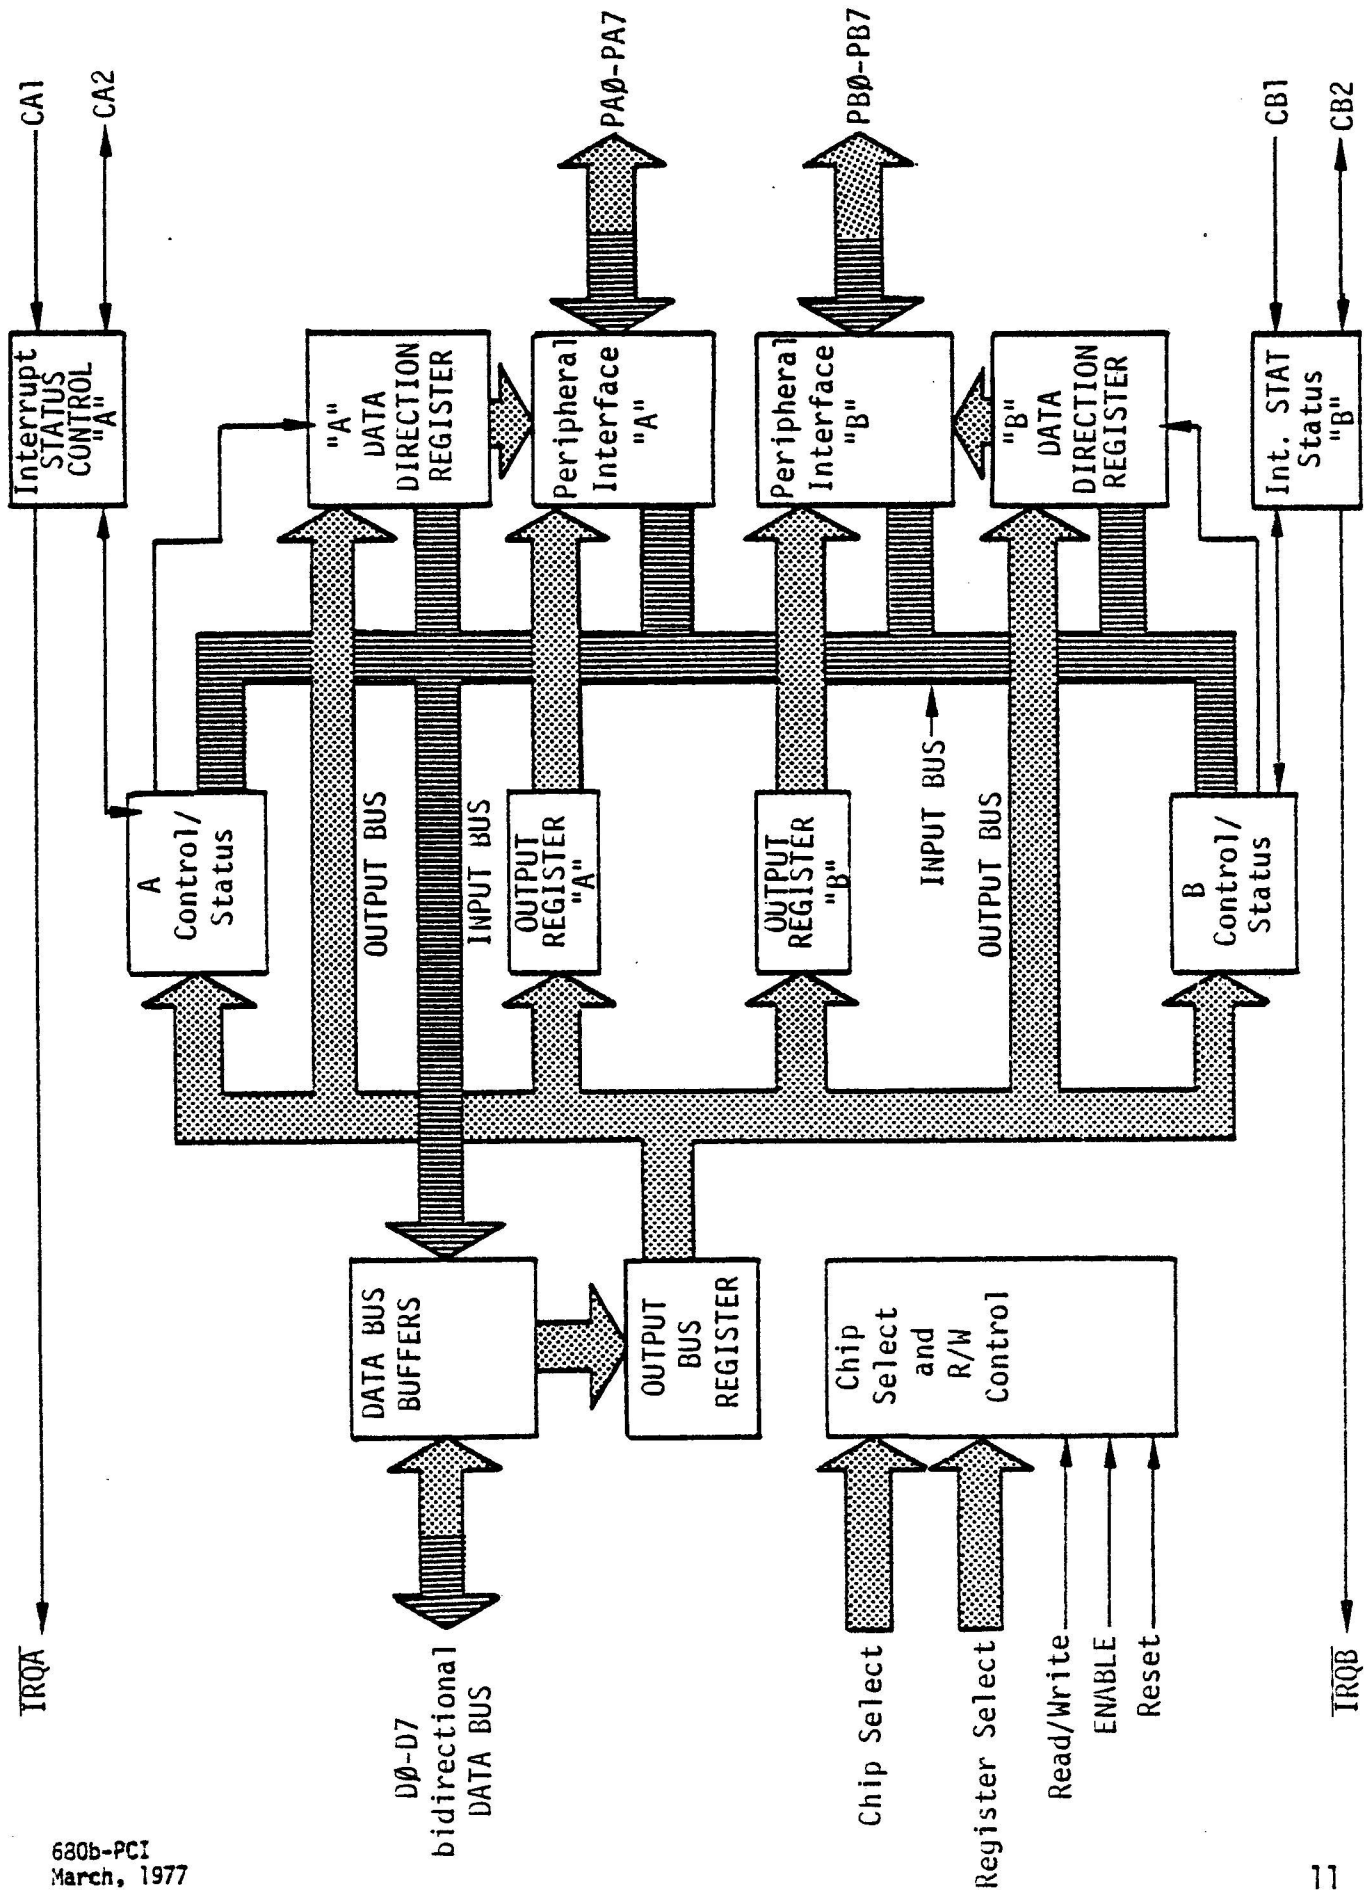

Figure 2-2. 6820 PIA Block Diagram
Refer to Figure 2-2. The 6820 Peripheral Interface Adapter (PIA) contains all the circuitry necessary to implement and control the eight incoming data lines (PA \emptyset -PA7) from the opto-isolators, the eight outgoing data lines (PB \emptyset -PB7) which control the relays and the two sets of bidirectional handshake lines. Handshake lines CA1 and CA2 are used with Section A, and lines CB1 and CB2 are used with Section B. The lines connecting the 6820 to the rest of the system consist of eight bidirectional data lines (D \emptyset -D7), one interrupt request line ($\overline{\text{IRQ}}$), lines to do chip select (CS \emptyset , CS1 and $\overline{\text{CS2}}$) and register select (RS1 and RS \emptyset) within the chip, lines to control read and write states (R/W), a line to enable the chip (E) and a line to reset the chip (RST).